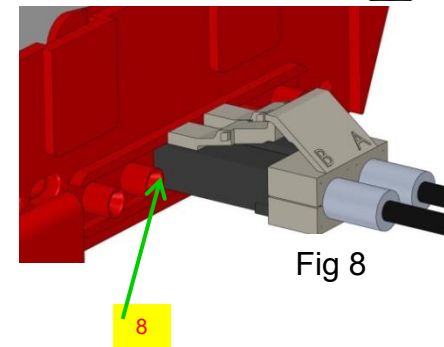

Fig 8
7. The connector should be seated flush as shown in (Figure 8). Push the connector while cutting to insure proper cut position.